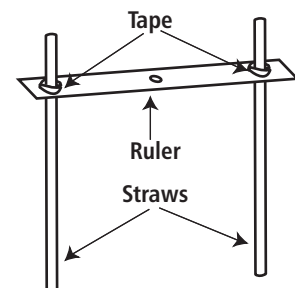

Figure 6: Drag Arm
2. Secure straws to the ruler by placing two small pieces of duct tape around the top of the straw (figure 6).